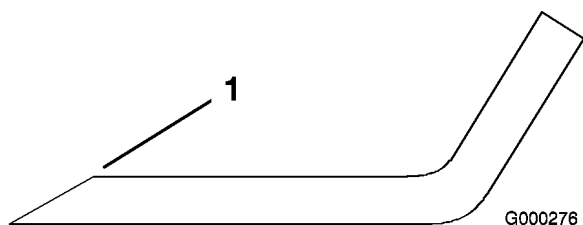

Figure 62
1. Use a file to sharpen the cutting edge at both ends of the blade (Figure 62). Maintain the original angle. The blade retains its balance if the same amount of material is removed from both cutting edges.